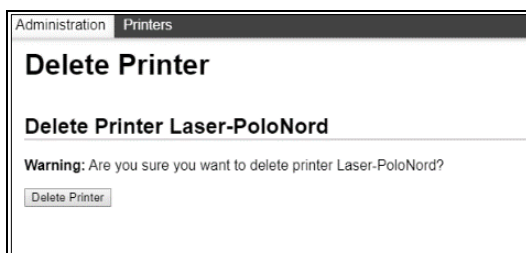

Fig. 144 – “Delete Printer” panel
- The printer can be deleted, after confirmation (Fig. 144)